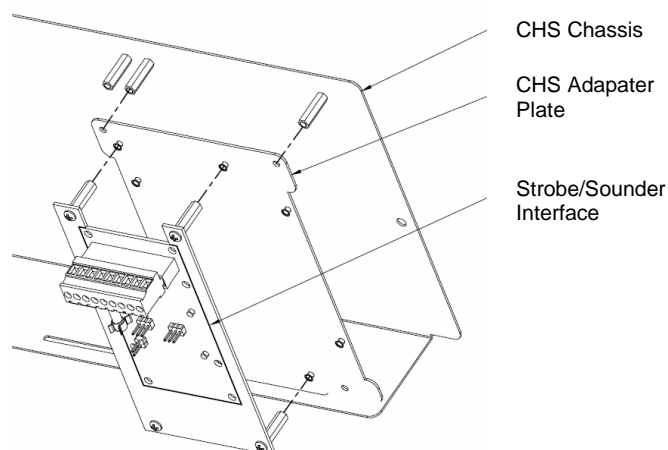

Figure 3-1 – Module mounting onto a standard chassis expansion slot
1. Mount the module fitted to the adapter plate into a standard chassis expansion slot as shown in Figure 3-1